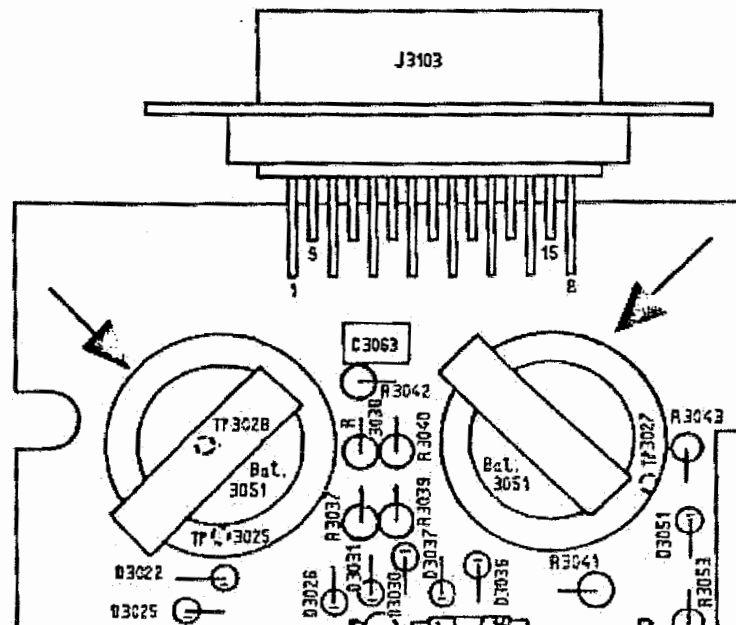

Fig 1: Location of battery Bat. 3051 on Synthesizer Module 28110 - 13000.000
5. If battery replacement is necessary, insert and solder new batteries as shown in Figures 1 to Figure 5.